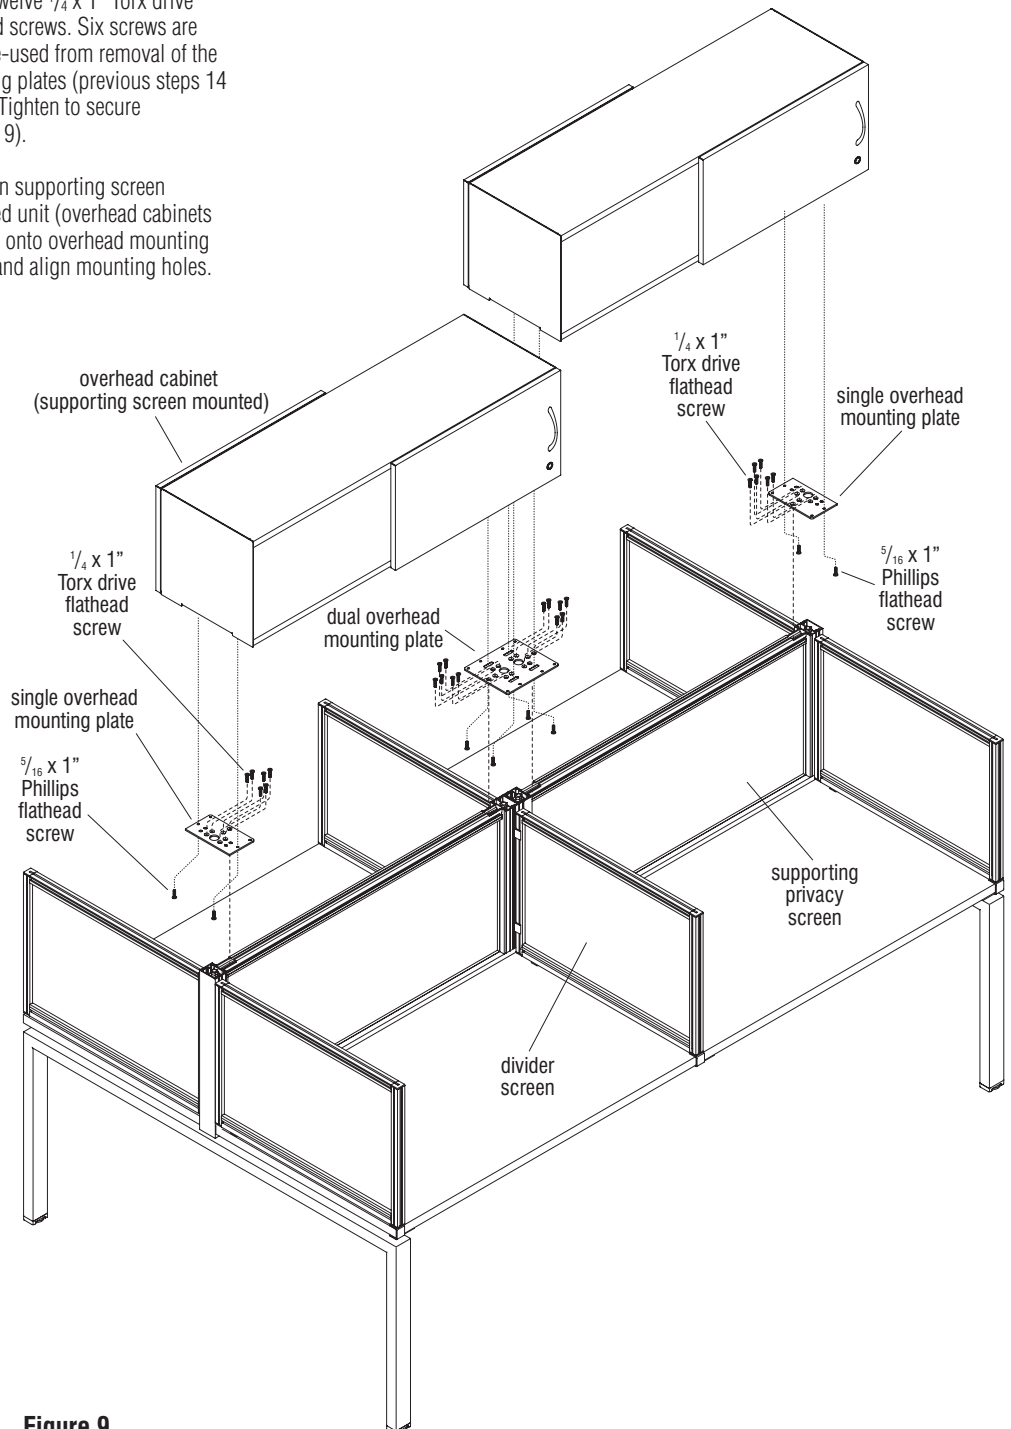

Figure 9
Important: If divider screens are specified, as shown in Figure 9, they must be installed prior to the installation of any overhead unit onto supporting privacy screens.
Note: Supporting privacy screen mounted "overhead cabinet" installation is shown in the steps below (Figure 9). Your units may vary. With wooden shelves, use hardware provided, align mounting holes and attach using screws from underneath.
26. If divider screens were installed, then the shipping plates (and screws) have been removed from supporting privacy screens (Figure 9). If not, remove all shipping plates from the top of supporting privacy screens to receive supporting screen mounted overhead cabinet(s). Retain the removed $\frac{1}{4} \times 1"$ Torx drive flathead screws for the next step (Figure 8).
27. At supporting privacy screen ends (or at the location where a run of supporting screen mounted cabinets will end), a "single overhead mounting plate" is used. Orient the single overhead mounting plate, with larger counter-sink holes facing up, over screw bosses in the top of the supporting privacy screen (at locations where shipping plates were removed) and secure each single-plate using six $\frac{5}{16} \times 1"$ Phillips flat head screws. Three screws are to be re-used from removal of the shipping plate (previous steps 14 & 20). Tighten to secure (Figure 9).
the twelve screw bosses in the top of two supporting privacy screens (over locations where shipping plates were removed) and secure using twelve $\frac{1}{4} \times 1"$ Torx drive flathead screws. Six screws are to be re-used from removal of the shipping plates (previous steps 14 & 20). Tighten to secure (Figure 9).
From underneath mounting plates, secure each cabinet with four $\frac{5}{16} \times 1"$ Phillips flat head screw per cabinet (Figure 9).